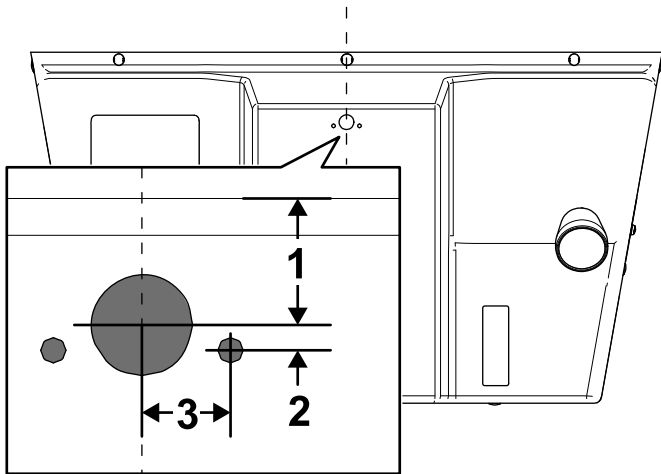

**Figure 4**
6. Mark and drill 2 holes (1/4 inch) in the rear cover using the measurements in Figure 3 or Figure 4.